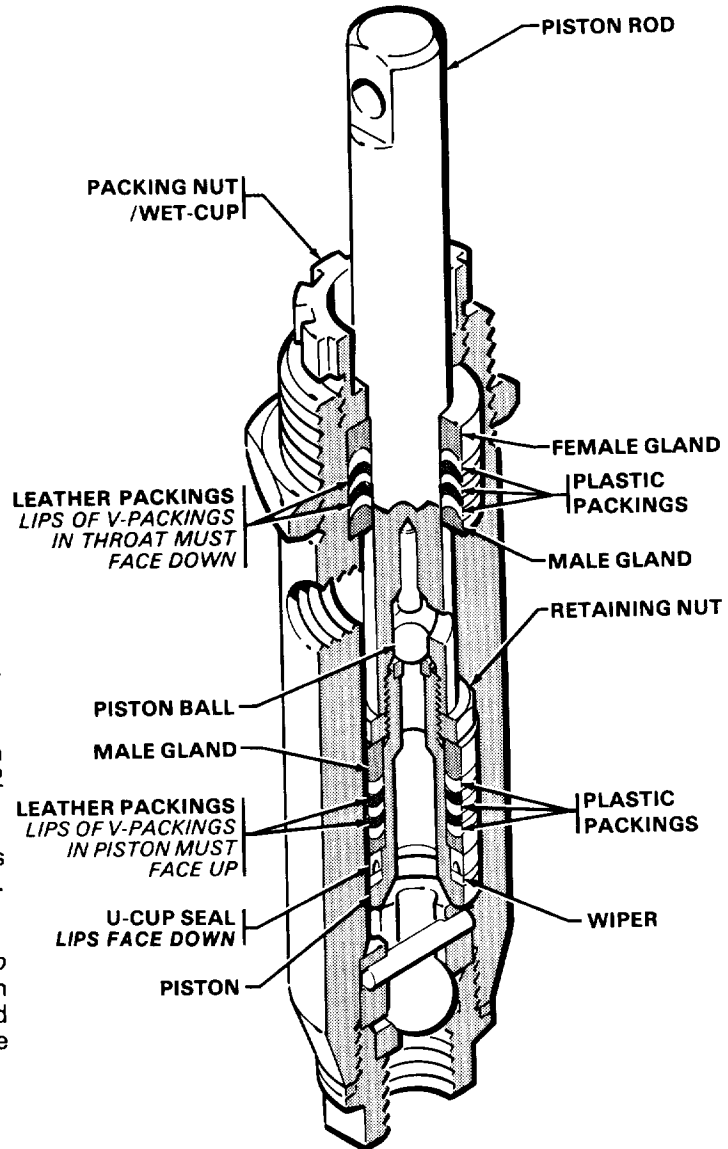

Fig 10
- (1) Repair Kit No. 218-303 is used for repacking the pump. For best results, use all the new parts, even if the old ones still look good.
- (2) All packings and glands must be properly installed. Alternate leather and plastic packings as shown in Fig 10. Notice that the lips of the throat "V" packings *face down*, against pressure, and the lips of the piston "V" packings *face up*, against pressure. The lips of the U-cup packing, which is located below the piston packings, *face down*. Incorrect installation damages the packings and results in the pump leaking.
- (3) Coat the piston rod, inside of the cylinder and the packings with a lightweight oil to help prevent packing damage when inserting the piston rod.
2. Stack the piston spacer, wiper, female gland, packings and male gland onto the piston valve. See Figures 10 and 11.
8. Stack the male gland, packings and female gland, one at a time, into the top of the cylinder. See Fig 10.
10. Insert the piston rod through the *bottom* of the pump cylinder, pushing it up until the top of the piston rod extends 1-7/8" (32.2 mm) beyond the top of the cylinder. See Fig 10.
12. Reassemble and install the intake valve assembly into the pump cylinder, being sure to use a new gasket. See Fig 10.